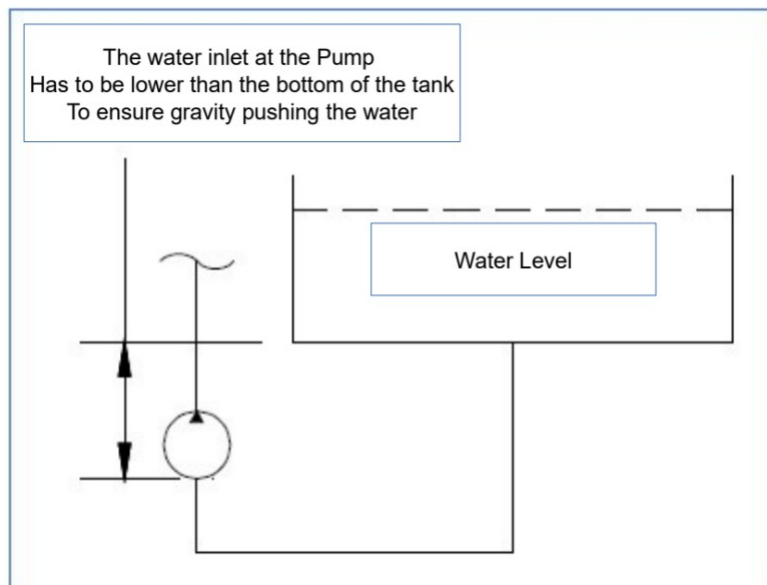

Figure 4.3 – Gravity Feeding Source
- Gravity feeding water source (See Figure 4.3). Use a hose with a diameter of at least 1-1/2” to connect the water tank to the power unit water inlet.
Ensure that the water source can reliably deliver the maximum pressure pump flow of 30 GPM (115 LPM). **A minimum flow of 40 GPM (150 LPM) from the supply source is recommended** to ensure that the pump is not starved of water. If connecting to a gravity feed tank, locate the tank outlet above the water inlet connection on the power unit to ensure a flooded suction line. (See Figure 4.3).